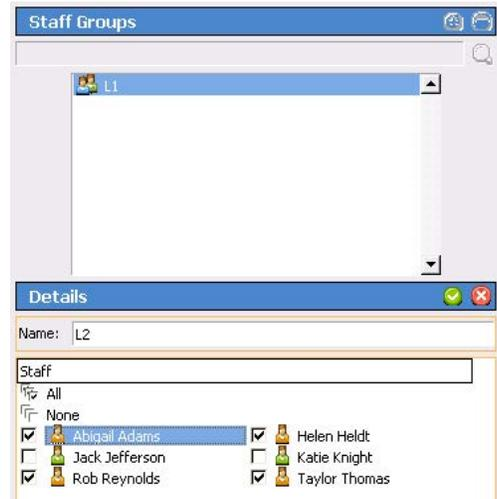

Figure 11: Config Tool Staff Groups
2. Select **Staff** from the page selection pane and click **Add** in the **Staff Groups** pane, shown in *Figure 11*.